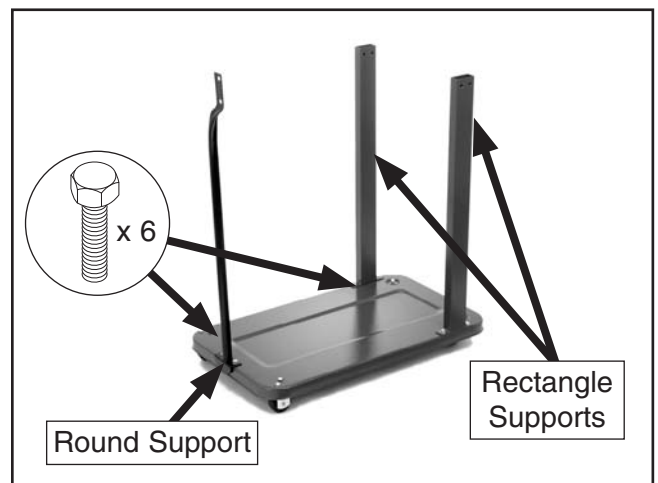

Figure 7. Round and rectangle supports installed onto the base.
2. Place the round and rectangle supports on the base and secure them with (6) $\frac{5}{16}$ "-18 x $\frac{1}{2}$ " hex bolts (see **Figure 7**).